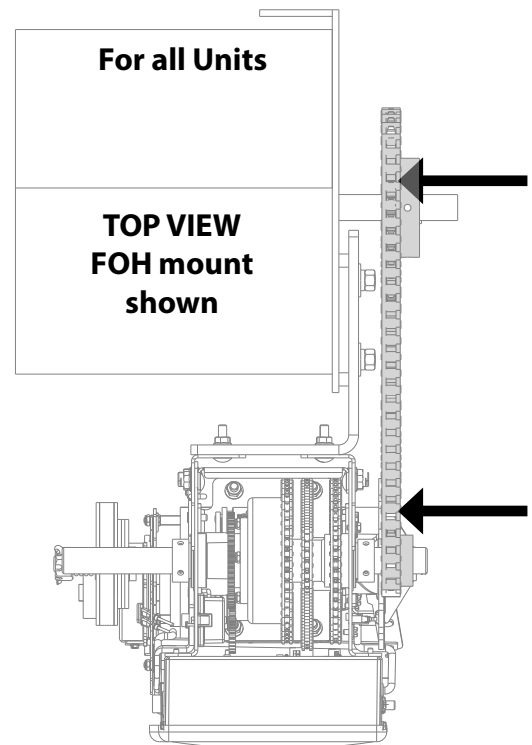

Fig. 6
- 4) Move and align sprockets and chain as close to the operator as possible. Fig. 6